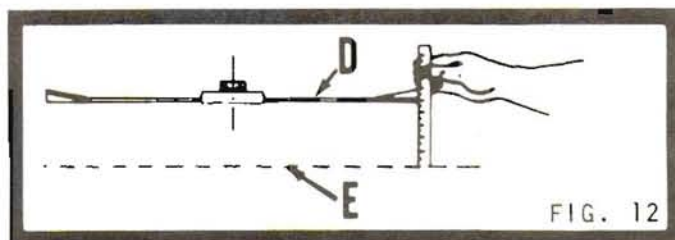

FIG. 12
1. Rotate blades (D) by hand so that they are in line with width of tractor. (See Fig. 12)
2. Measure the height of the tips of outer blades (D). Both right and left hand must be the same distance from level surface (E) within 1/8".